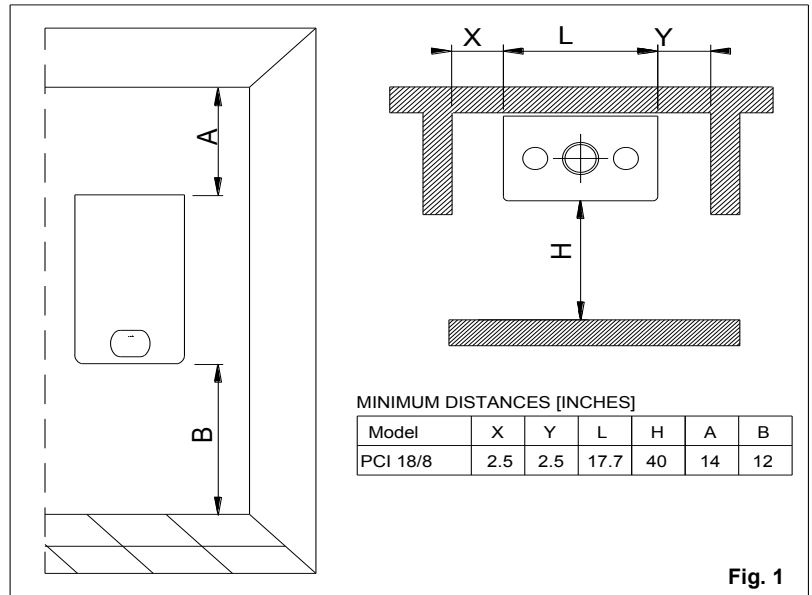

Fig. 1
A. Place the packed appliance on the floor (see fig. 1) making sure that the "up" arrow is facing down. Remove the staples and open out the four flaps of the box.
In order to allow access to the interior of the boiler for maintenance purposes, it is important that the minimum distances indicated in figure 1 are respected. To make the installation easier, the boiler is supplied with a template to enable the pipe connections to be positioned prior to fixing the appliance to the wall.